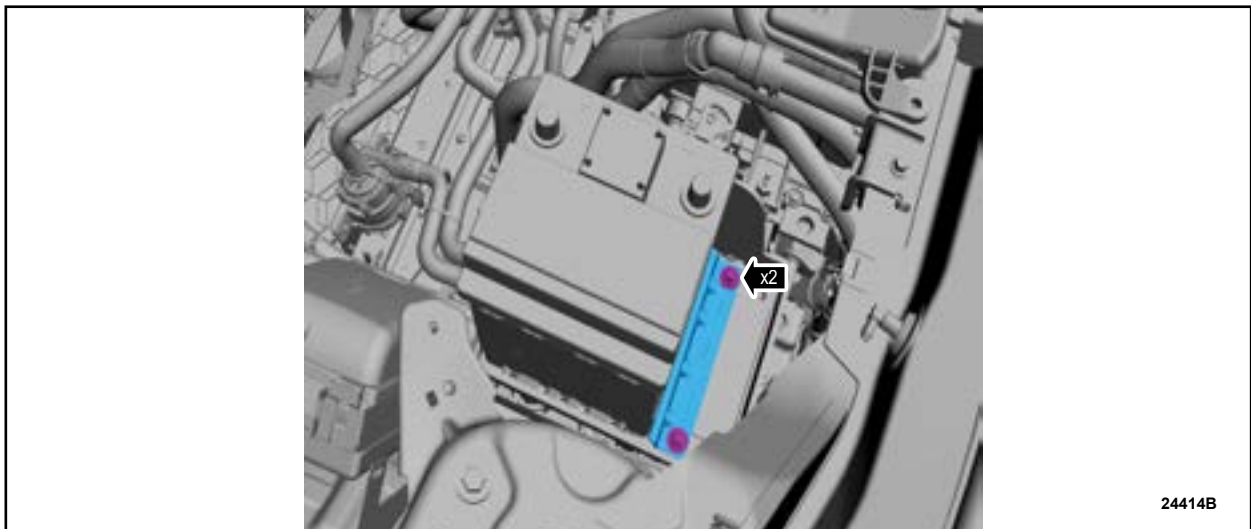

FIGURE 2
4. Remove the bolts and the battery hold down clamp. See Figure 2.